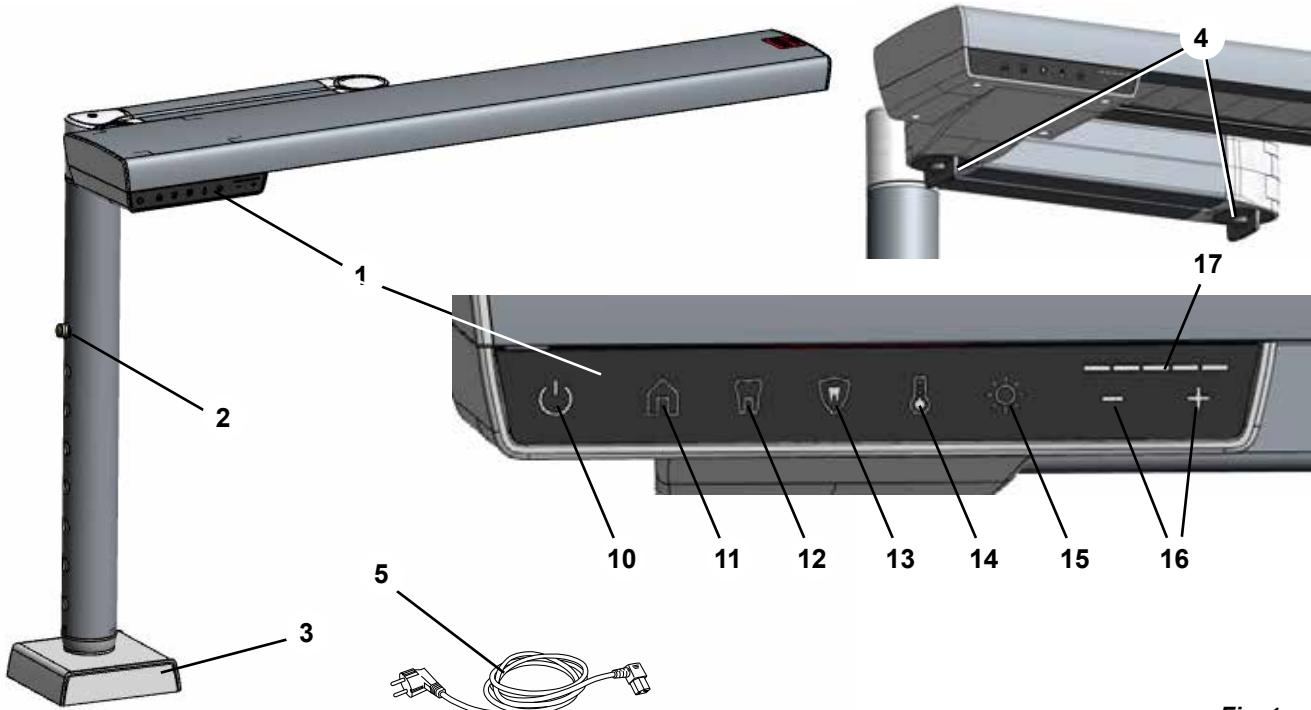

Fig. 1
⇒ Press in the height adjustment lock (2, Fig. 1) and pull out the inner tube on the base to the maximum position.
To determine the appropriate mounting location, loosen the joint lock (4, Fig. 1) and check that you can move the workstation light to the optimal position described above (Chapter 4.2.1).
- ⇒ Press the power button (10) briefly
- ◆ The brightness button (15, Fig. 1) lights up.
- ◆ The current brightness value is displayed in the intensity display (17, Fig. 1).
- ⇒ Press the power button (10)